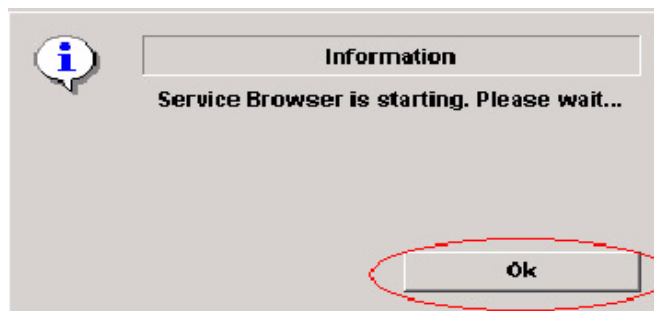

Figure 7-103 Information
- Click OK or wait 5 seconds after starting information appears. See Figure 7-103 on page 7-8 .